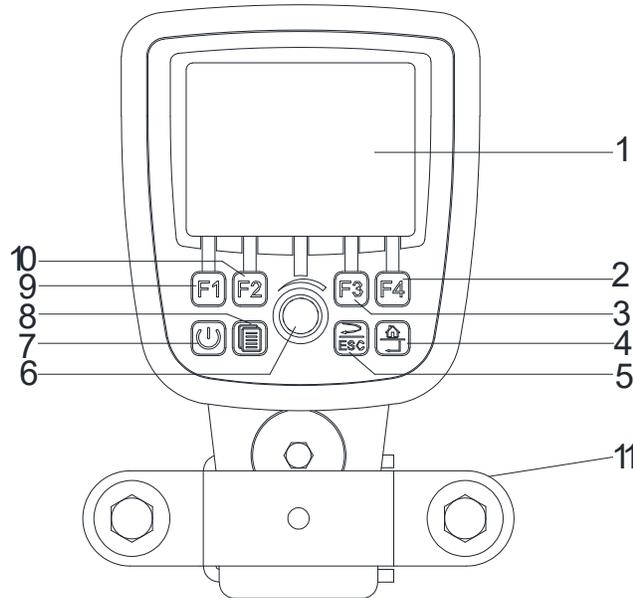

Fig. 33 VisionX Display operating device (hybrid)
- VisionX Display operating device (hybrid) (Fig. 33)
When the disc spreader is not hitched to a towing vehicle, the operating device is attached to a holder at the front of the hopper. A holder (Fig. 33/11) for the towing vehicle included in the scope of delivery enables the operating device to be attached to the towing vehicle. The disc spreader can then be operated from the towing vehicle.